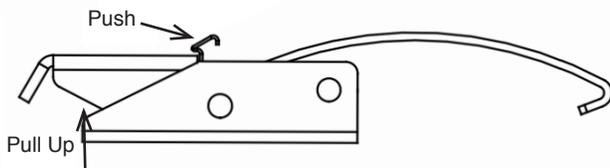

Figure 45b- Detail to Unlock a Latches
* The latches are self locking. The **Figure 45b** shows how to unlock a clip.